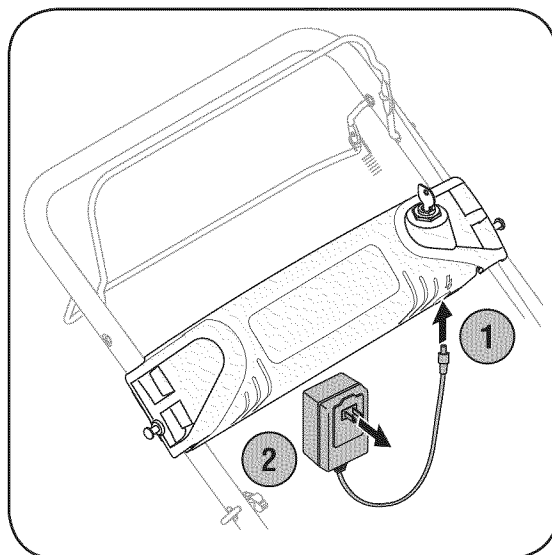

Figure 10
1. Plug the battery charger into the outlet on the underside of the battery housing. See Figure 10.